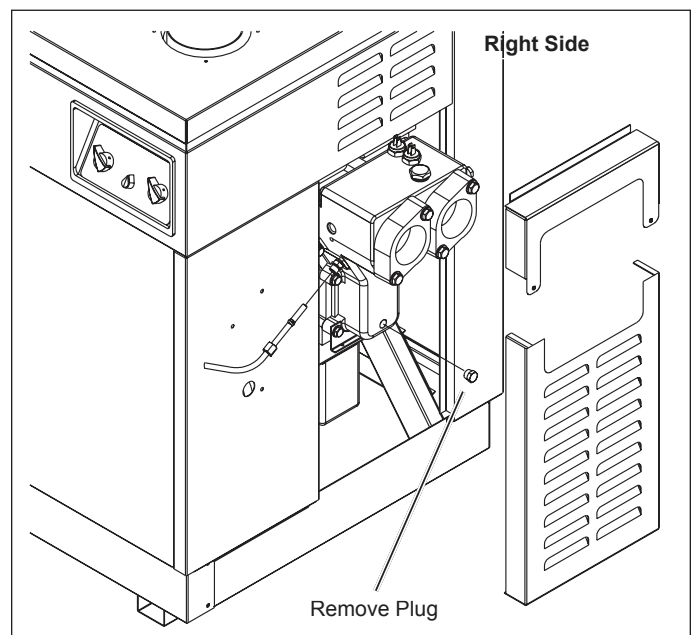

Figure 28. Water header draining.
3. Completely drain the heater before the first frost. To drain the heater, remove the side panel, and remove the drain plug. See Figure 28.
5. Disconnect the copper tubing from the pressure switch fitting. See Figure 28.
1. Attach the pressure switch fitting to the copper tubing. See Figure 28.